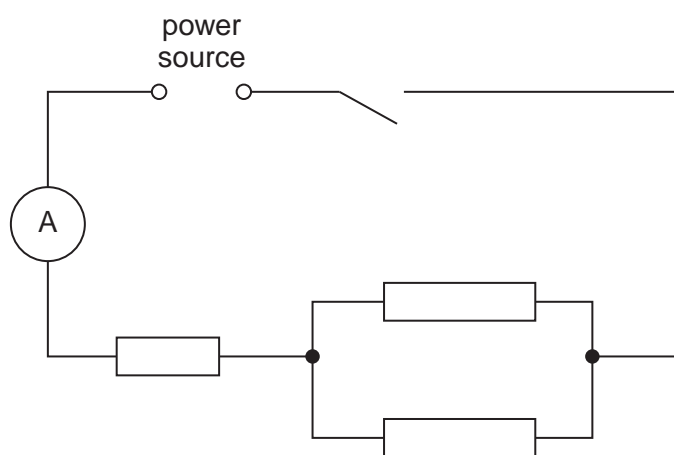

Fig. 3.1
- (vi) Sufficient connecting leads to set up the circuit shown in Fig. 3.1 plus three additional leads.
1. The circuit is to be set up for the candidates as shown in Fig. 3.1 with the additional leads within easy reach.
Reconnect the circuit as shown in Fig. 3.1.